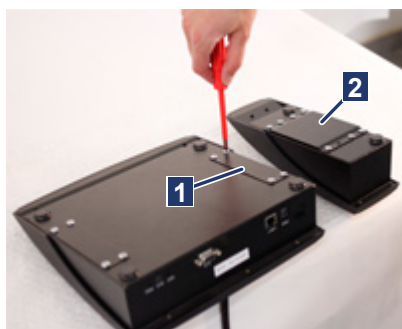

Figure 5-2: Unscrew the cover plate and the connecting plate
3. Place the devices next to each other on the work surface so that the bottom sides face upwards. Ensure that the gooseneck microphone protrudes over the edge of the work surface (Figure 5-2).
4. Unscrew the right cover plate of the IP desktop intercom station (Figure 5-2/1).
5. Unscrew the connecting plate of the additional keypad (Figure 5-2/2).